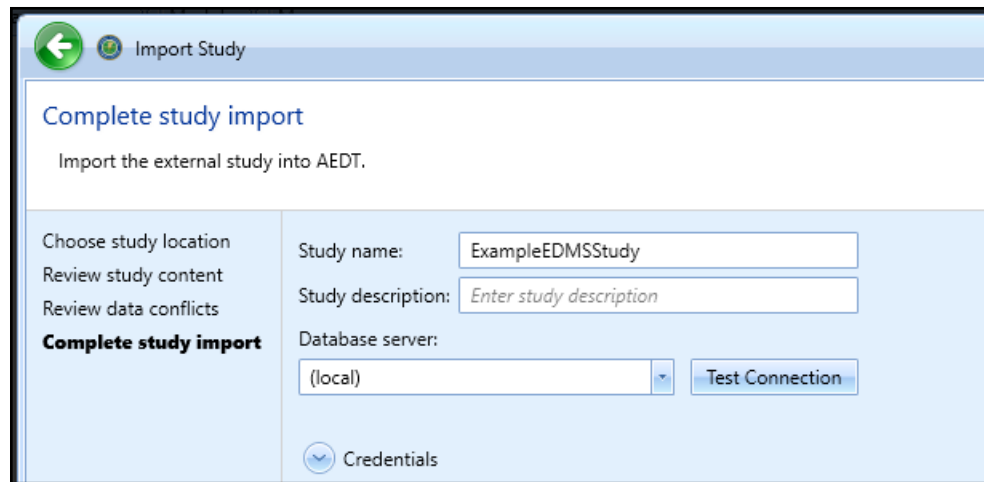

Figure 48. Complete study import
6. In the *Complete study import* step, enter a unique *study name*. (Figure 48)